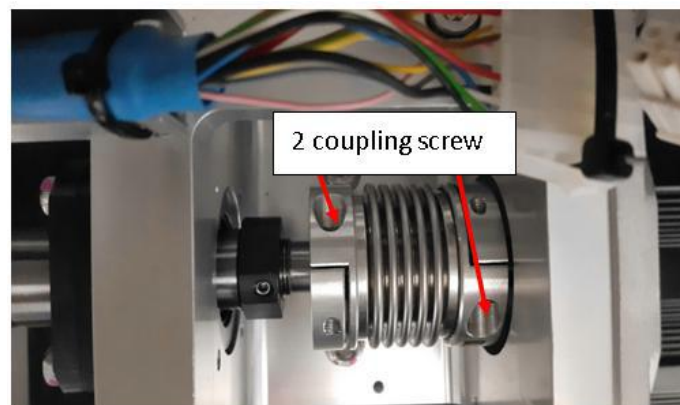

Figure 20 Coupling Screws
22. Tighten back 2 x Coupling Screws as below Figure 20.